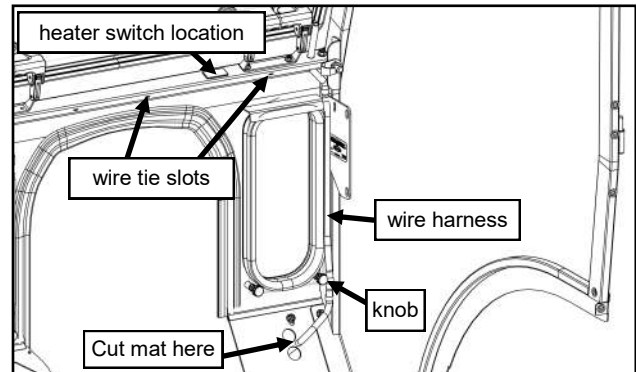

Fig. 9.2 (wire harness installation onto cowl)
9.2 Per figure 9.2, cut hole through the floor mat using the smallest hole found on the floorboard mount. Insert the switch end of the harness (see page 23) from the bottom of the tractor floorboard thru the hole. Run the switched power wiring harness up the right side of the cowl up to the heater switch location and secure the harness to the cowl using the supplied P-Clips and self-drilling screws. Making sure to leave accessibility to the cowl windows' mounting knob and optional heater if being installed.